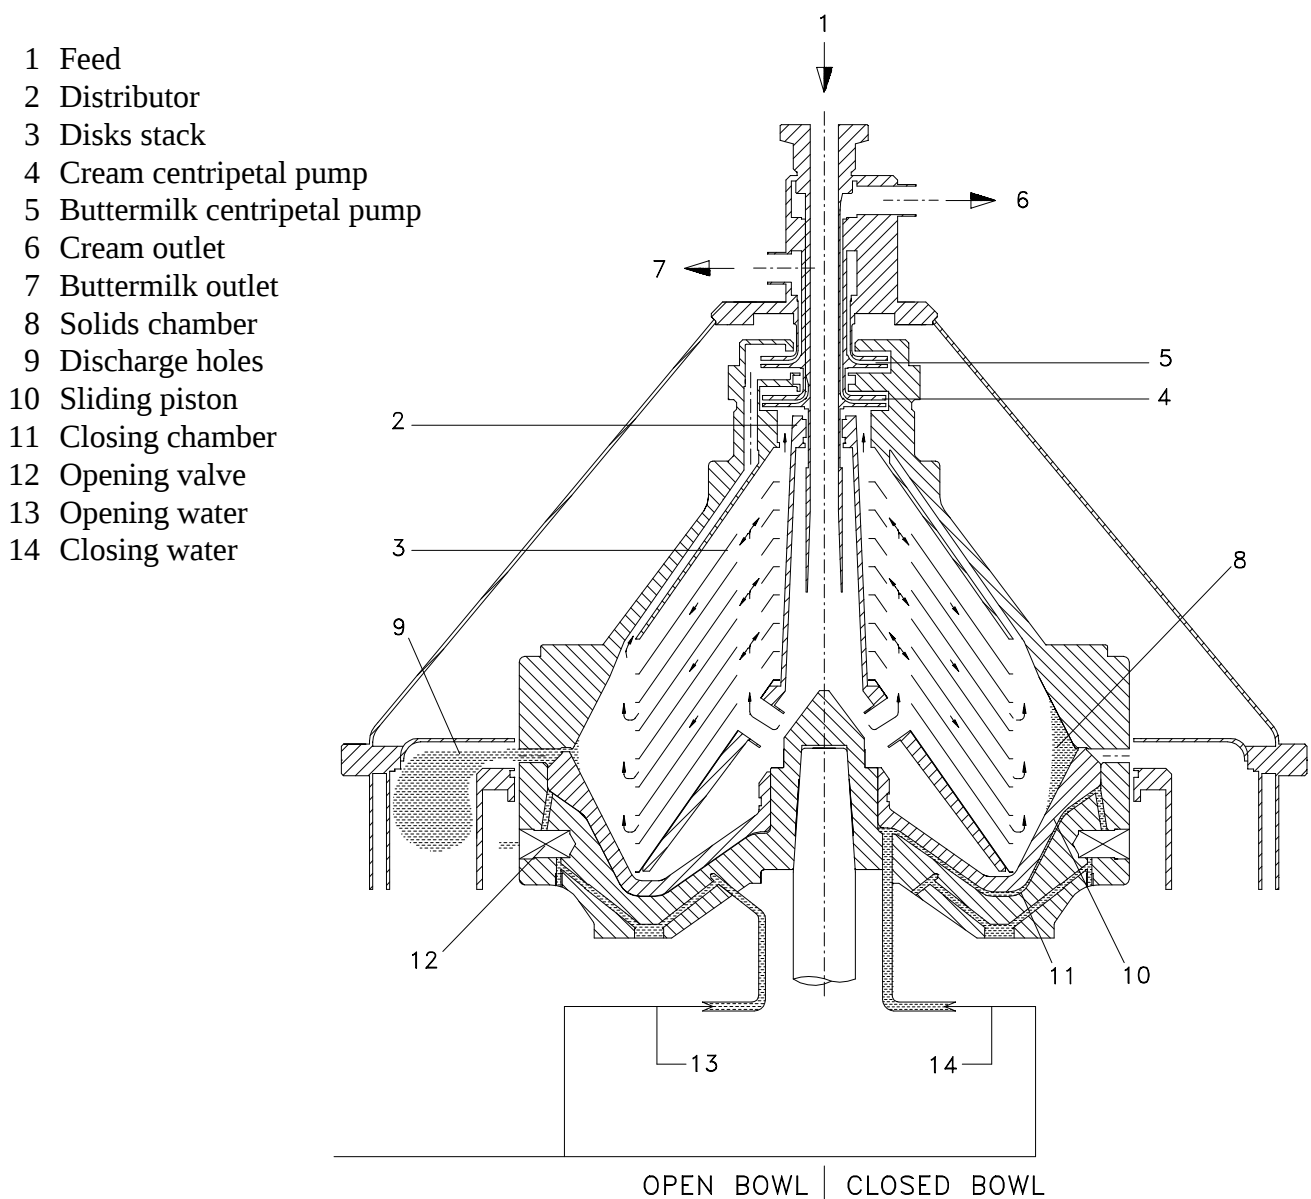

Figure 3.1
The product flows (fig. 3.1) into the bowl through feed pipe (1) and into the distributor (2) it undergoes acceleration until it reaches the bowl rotating speed. The distributor (2) conveys the product to the disks stack (3) where the separation between light and heavy phase takes place. Light phase flows to the centre of the bowl and heavy phase flows to the bowl outer diameter. They rise in the disks stack and reach the two upper chambers of the bowl. Here two fixed centripetal pumps (4, 5) convey them under pressure to the outlet pipe lines (6) and (7).